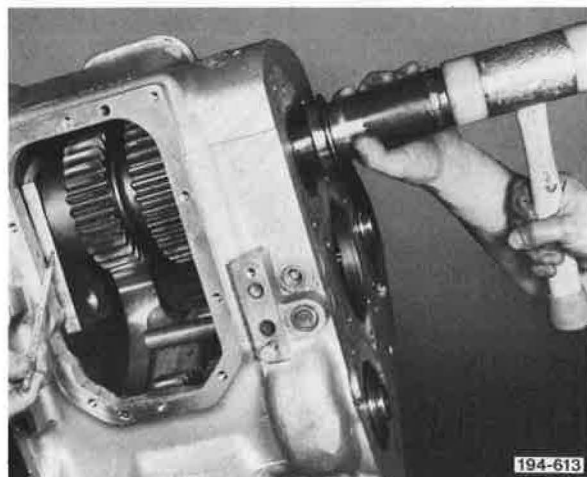

Figure 327. Installing Bearing
13. Place a block of metal at front end of rear countershaft, to provide a solid base, and install rear countershaft rear bearing using a suitable driving sleeve. Apply force to the inner race only. See Figure 327.